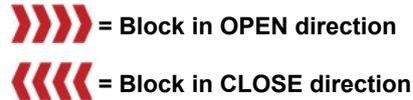

Fig. 2: Indication of operation direction during block
- 4 Should a block occur during operation, the respective status message is indicated and the remaining travel is represented as red hatched area, refer to fig. 2